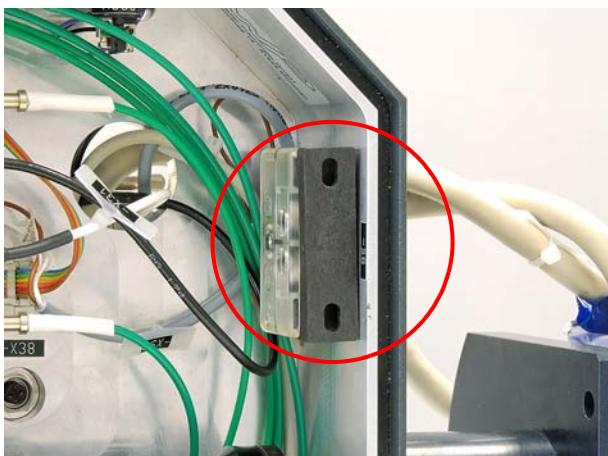

Figure 6.51 Interlock switch bridged
2. Bridge the interlock switch (Figure 6.51).